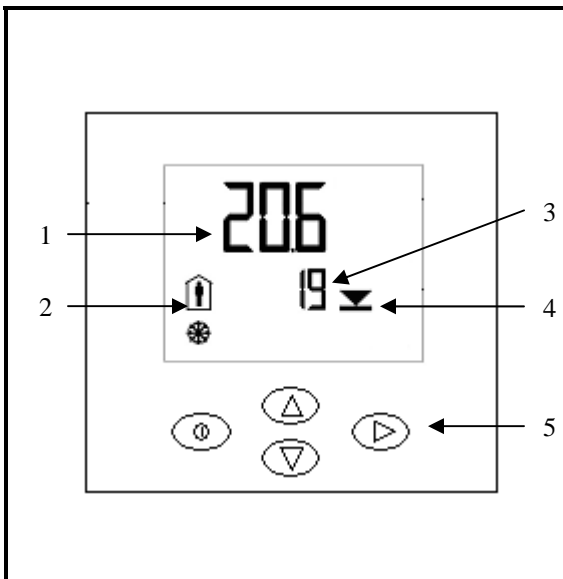

Figure 1. Humidistat LCD Display
- (2) Refer to the installation instructions for Part # 1510142 – Wall Humidistat Installation.
A. Legend for Figure 1.
- (1) Display of current humidity value.
- (2) Snowflake indicates that outdoor temperature setback for winter compensation is in effect.
- (3) Setpoint display
- (4) Indicates humidistat is calling for humidity.
- (5) Buttons for operating the humidistat: